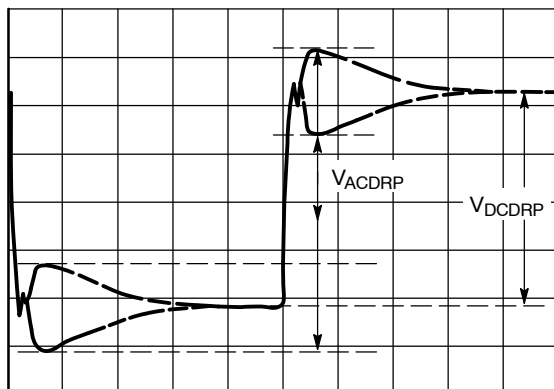

Figure 37. AC Load Line Waveform
5. The resulting waveform will be similar to that shown in Figure 37. Use the horizontal cursors to measure V_{ACDRP} and V_{DCDRP} as shown in Figure 37. Do not measure the undershoot or overshoot that occurs immediately after the step.